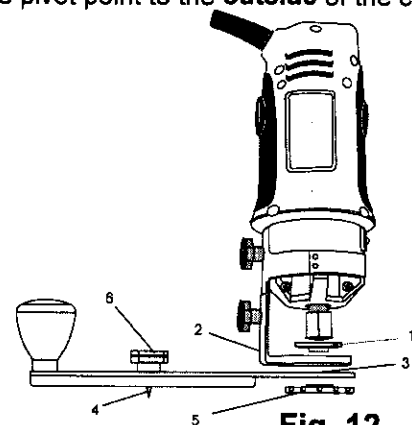

Fig. 12
2. Insert the externally threaded circle cutter mounting insert (1) into the bottom of the sole plate (2) (see Fig. 12).